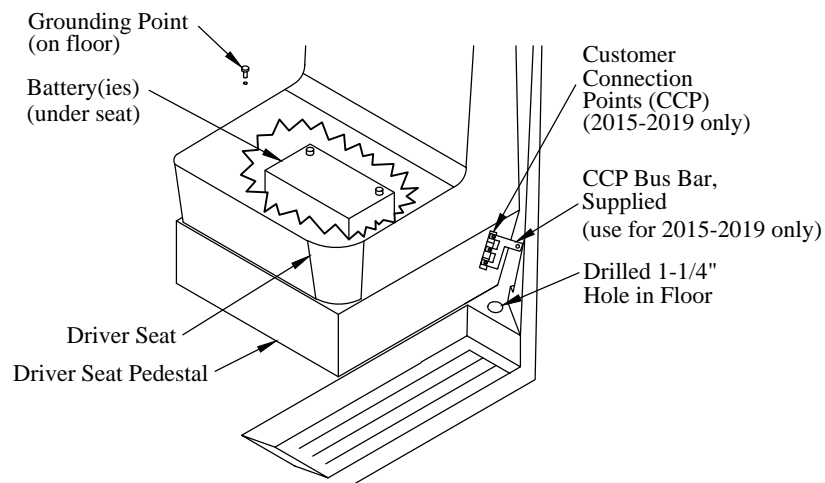

Figure 19: Power connection locations.
4. **Drill** and **Deburr** a 1-1/4" hole in the floor next to the driver seat in the location shown (Figure 19).
10. **Cut** the negative(-) lead to the length required to reach a vehicle ground point on the floor between the front seats (Figure 19).
19. **Remove** the plastic cover from the CCP on the driver seat pedestal (Figure 19).
20. **Install** the supplied bus bar on the CCP studs using three (3) supplied M5 nuts and star washers.